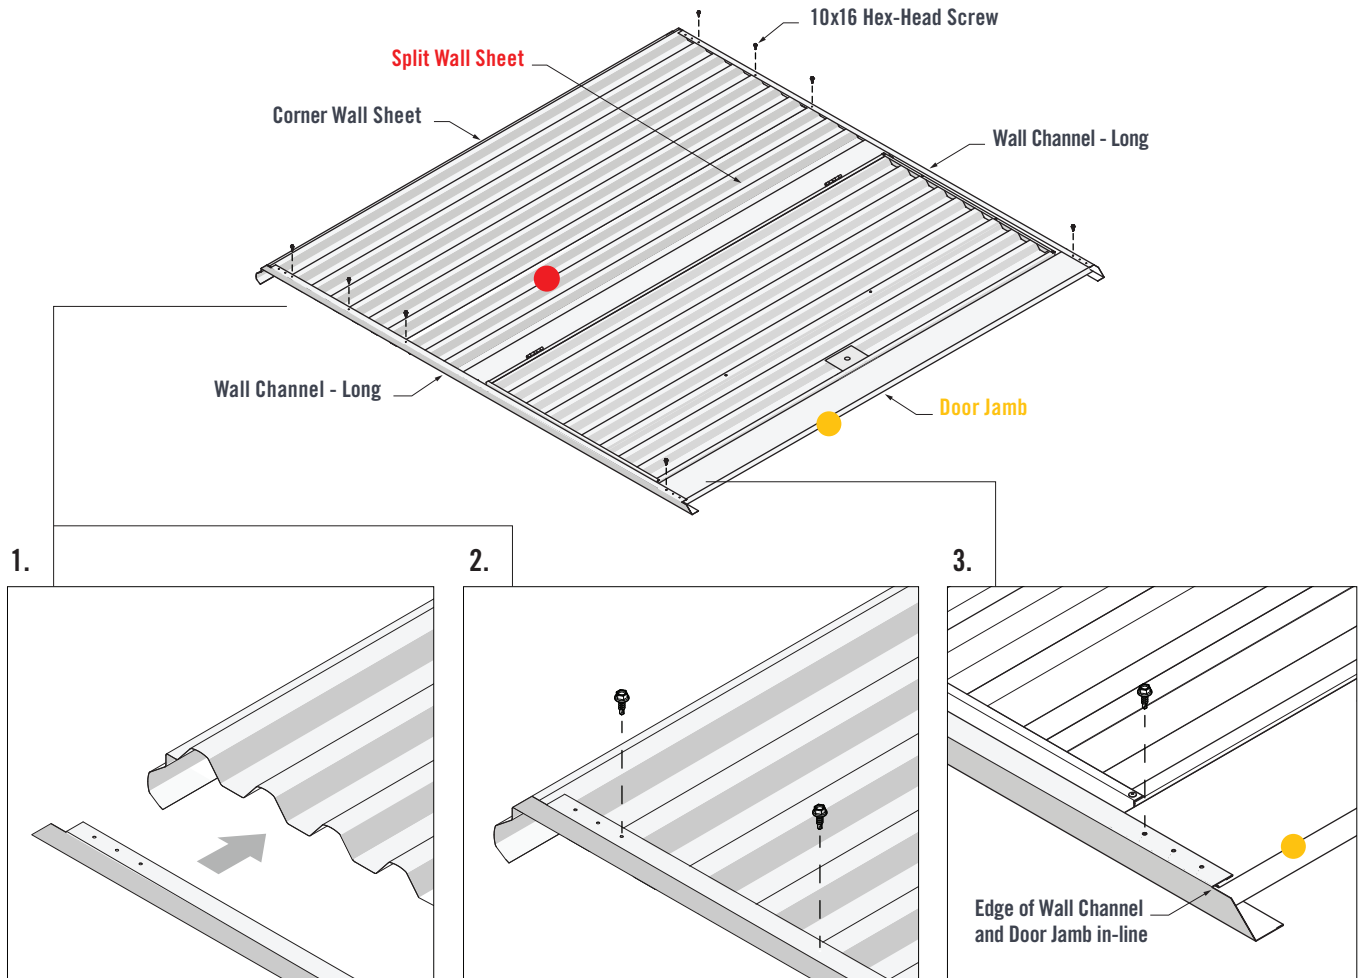

FIGURE 4.2
1. Fit both Wall Channels (Long) over the lapped Wall Sheets and Door Jambs. The end of the Wall Channels should fit up against the end of the Corner Wall Sheet (Figure 4.2).
2. Fasten one 10x16 Hex-Head Screw through the third pilot hole of the bottom and top Wall Channels and into the Corner Wall Sheet crest. Fasten two 10x16 Hex-Head Screws through the bottom and top Wall Channels and into the third Wall Sheet crests (Figure 4.2).
3. Ensure the edge of the Wall Channels and Door Jamb are in-line. Fasten one 10x16 Hex-Head Screw through the third pilot hole of the bottom and top Wall Channels and into the Door Jamb (Figure 4.2).